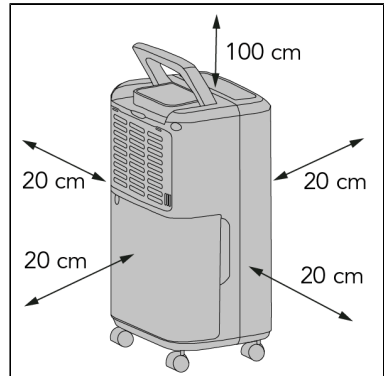

Figure 17.
2. Keep the following minimum distances to ensure proper air circulation of the unit (Figure 17*):